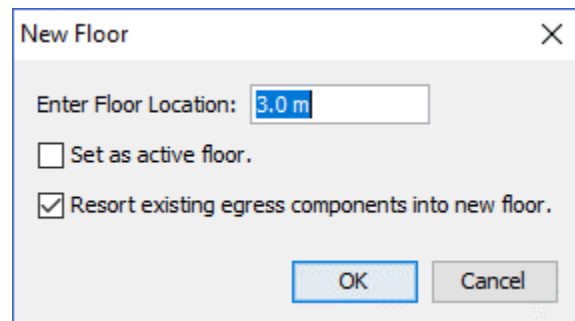

Figure 20. Floor Location Z plane
2. Enter the Z plane location (Figure 20) or click on a snap point in the 3D or 2D view and click okay. This Z plane will be used to update the drawing tools' working Z location when this floor is made active.